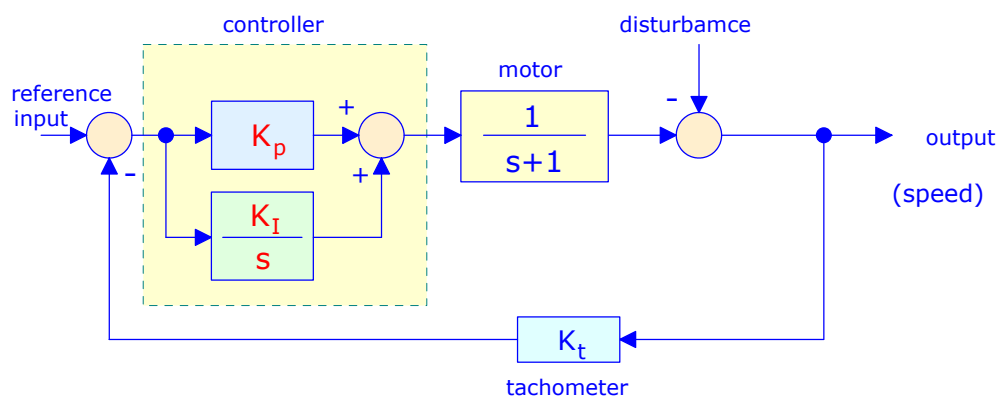

Fig. 4 Speed control system with PI control
- 4) Use SIMULINK to simulate the behavior of the motor speed control system shown in Fig. 4, with a PI controller. (Assume $K_t = 1$ volt/rad/sec). [set $K_p = 0, 1, 4$; and let $K_I = 0, 1, 2, 5, 8$]. Describe the effect of the integral control action. [using a unit-step reference input and no disturbance].